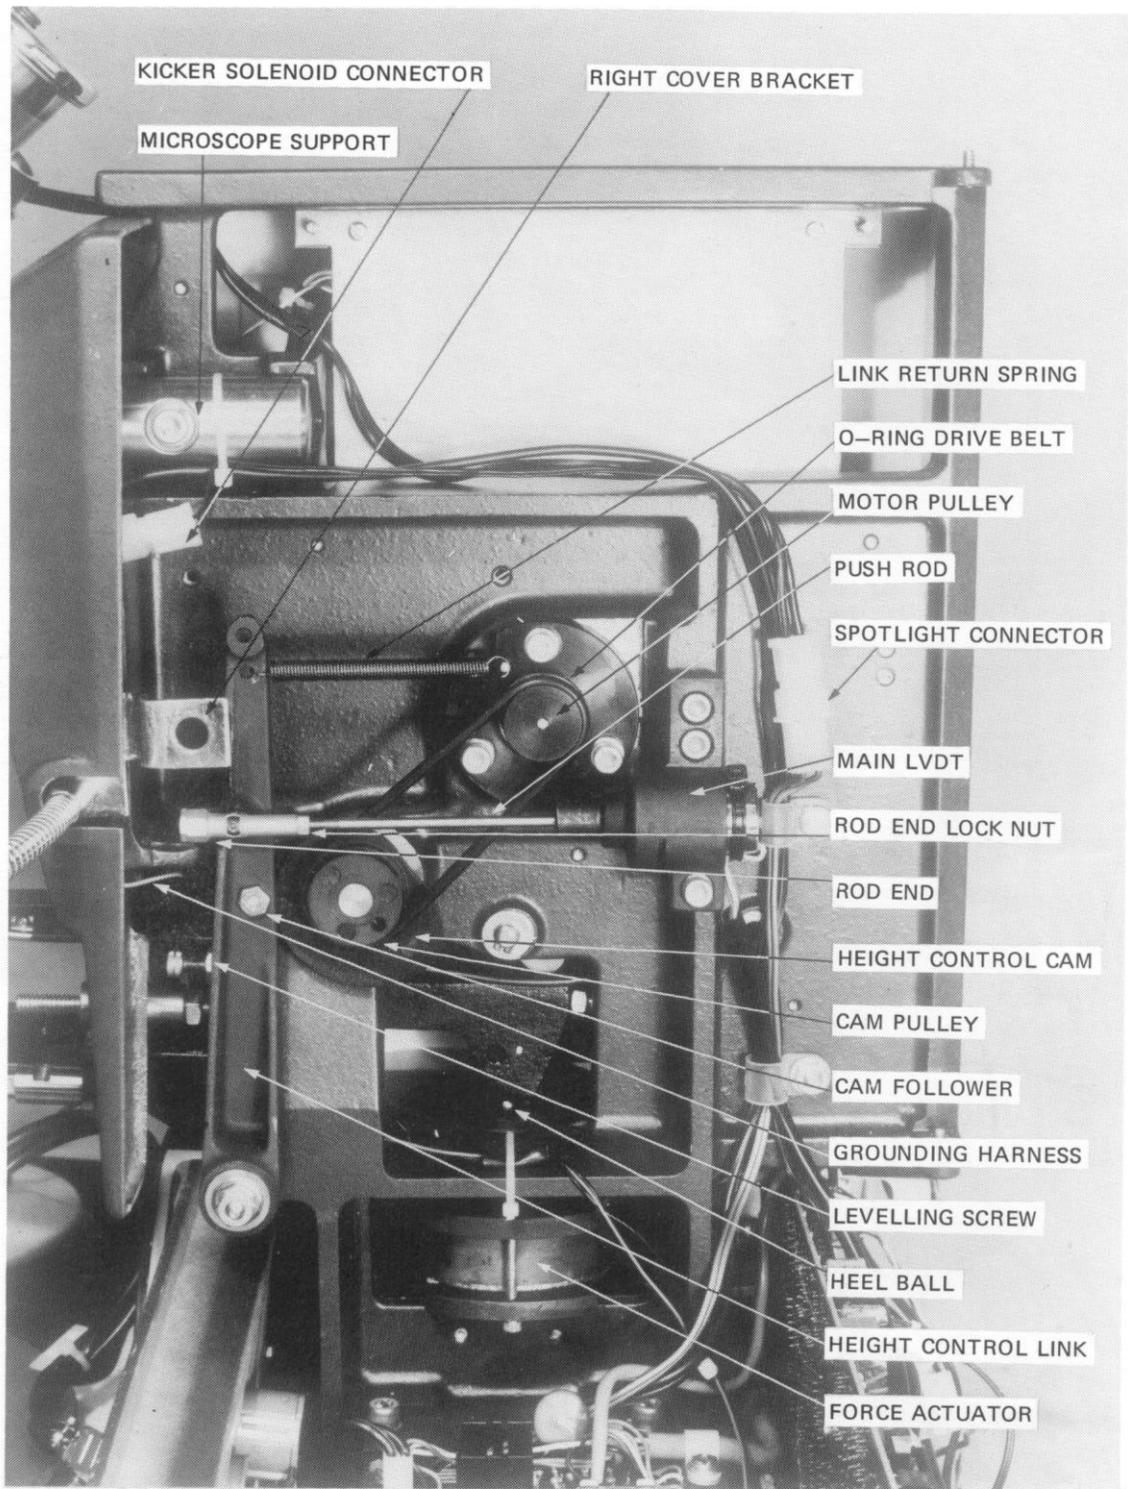

FIG. 3-10 MAIN HEAD - INNER RIGHT SIDE
- 3.3.2 FORCE ACTUATOR (Fig 3-10) is an electrical moving coil and core mounted with their axis vertical between the poles of a permanent magnet. When the coil is energized, it rises, rushing against the HEEL BALL of the bonding head and lowering the capillary at the front end.
The Constant force continuously keeps the actuator coil in contact with the heel ball. This force is weak enough to be overcome by the LINK RETURN SPRING (Fig 3-10). When POWER switch is OFF, the actuator coil drops away from the heel ball. When power is switched ON, you should hear a click as the actuator coil strikes the heel ball. During normal operation this impact does not occur, since the actuator coil and the heel ball are always in contact.
- 3.3.3 HEIGHT CONTROL LINK (Fig 3-10) is a vertical lever pivoted independently at its lower end on the BONDING HEAD PIVOT and held back against the HEIGHT CONTROL CAM by the LINK RETURN SPRING. After each bond the actuator force is switched to Constant, allowing
- 3.3.3.2 MAIN LVDT (linear variable differential transformer) (Fig 3-10) feeds back position signals from the height control link to the logic board. The logic board uses these signals to synchronize the bonding cycle and to modulate the bonding speed accordingly.
- 3.3.4 SERVO MOTOR (Fig 3-10), on signal from the logic board, drives the height control cam through a reduction gear and a belt-drive mechanism. The height control cam engages the cam follower on the height control link, thus regulating its tilt forward or backward. A built-in TACHOMETER on the servo motor feeds back motor speed signals to the logic board, which uses these signals to modulate the bonding head speed.